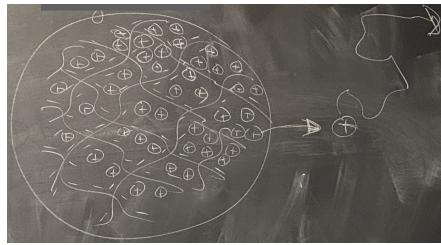

Figure 4.8: A negatively charged gel.
- Since positive charges are leaving the gel (as in Figure 4.8), the gel will have a net negative charge afterwards. Specifically, this net negative charge will be equal to  $-q_1 Q_{\text{macro}}$  (i.e., the opposite sign of the charge that is leaving, times the number of charges that have left).